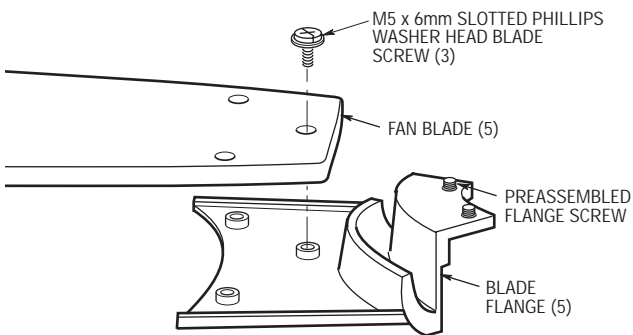

Figure 10
- 12. Mount blade flanges to fan blades using three M5 x 6mm slotted Phillips washer head blade screws (Figure 10). Note that the decorative blade side faces down.